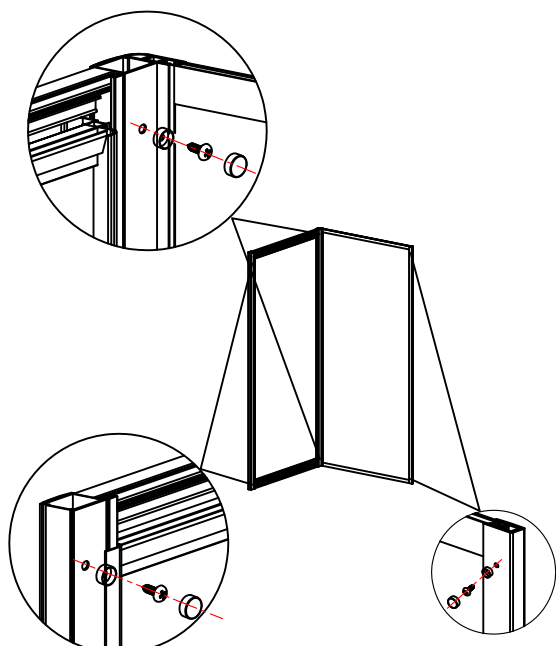

Fig.4
- (Fig.4) Drill holes through profile into compensation channel. use screws to secure into place. (cover with decorative covers)